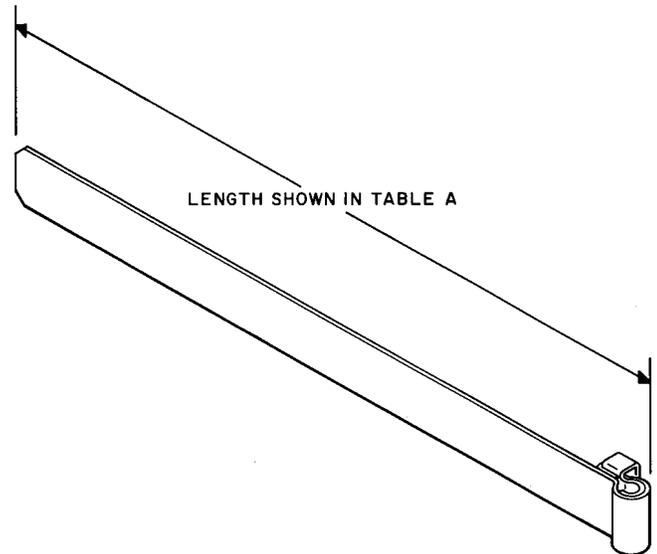

Fig. 1—B Lashed Cable Support
2.01 The B lashed cable support (Fig. 1) is a stainless steel strap 3/4-inch wide with a buckle loop for holding and terminating the wraps of the strap.